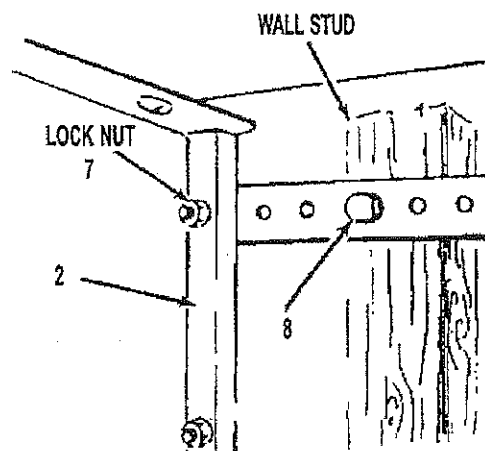

FIGURE 4
After exhaust is connected and dryer and stack stand are in the selected operating position, use lock nuts (7) to secure the stand to the wall as illustrated in *Figure 4*. Refer to Installation Instructions for your new dryer for final utility connection.